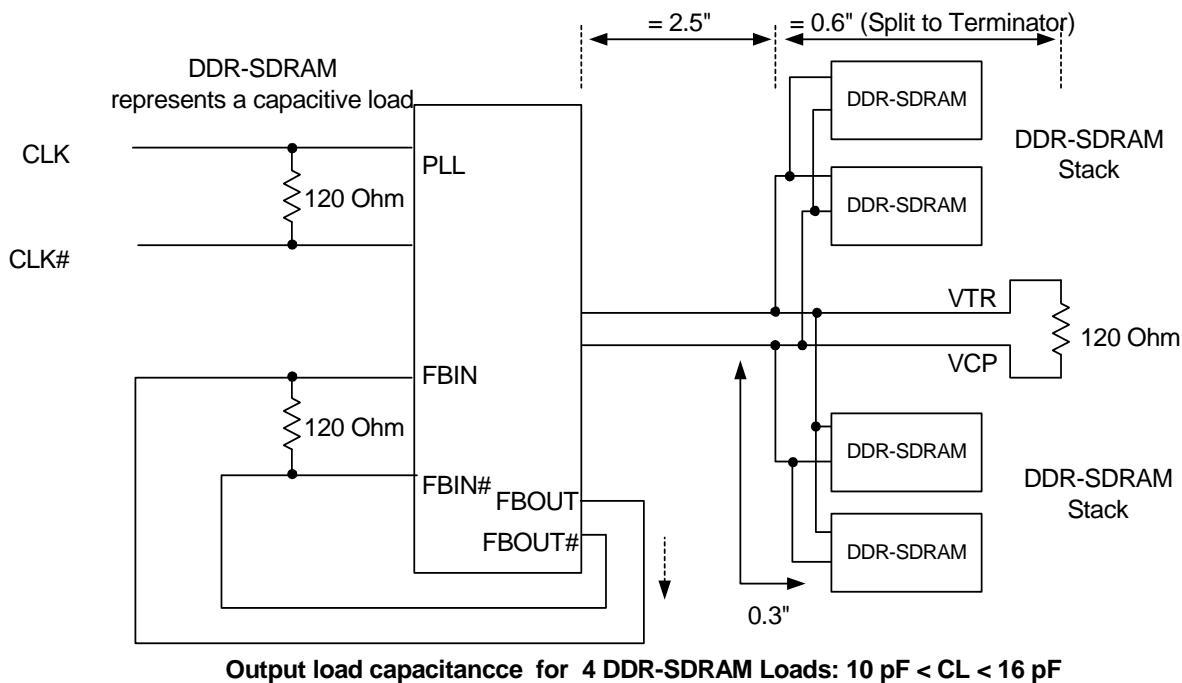

Figure 5. Clock Structure # 1
14. All differential input and output terminals are terminated with $120\Omega/16 \text{ pF}$, as shown in *Figure 5*.